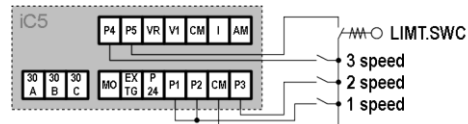

Figure 1
- Wire the I/O terminal of the iCS inverter according to the **Figure 1**